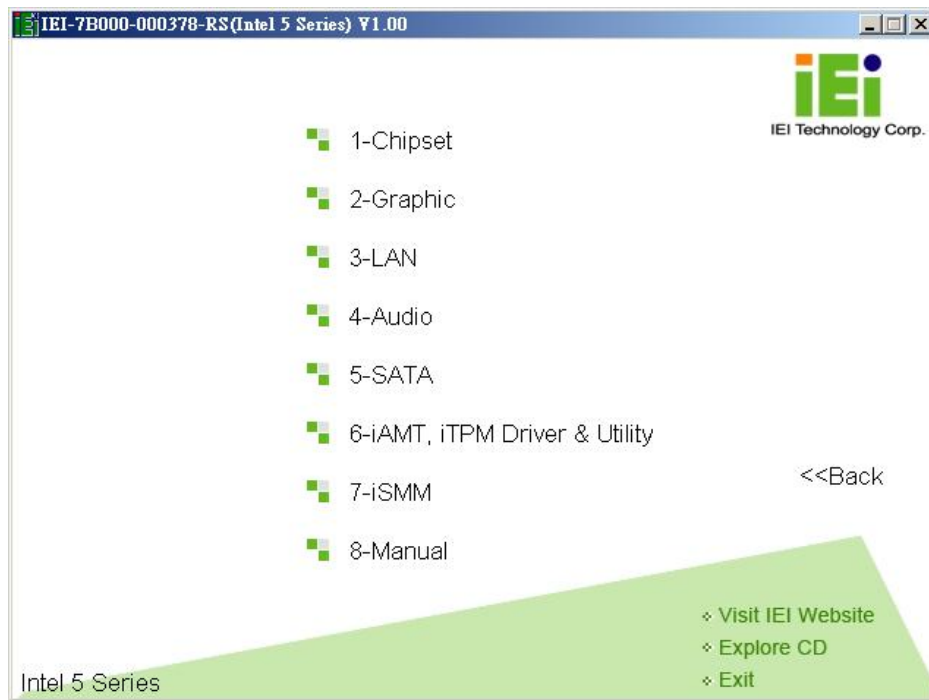

Figure 4-20: Available Drivers
Step 4: A new screen with a list of available drivers appears (**Figure 4-20**).